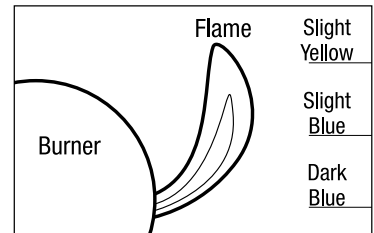

FIG. 4
- After lighting, observe the burner flame. Make sure all burner ports are lit and flame height matches illustration. **Fig. 4.**